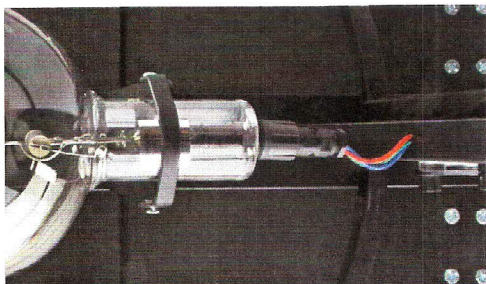

Figure 1: Socket connection
2. Connect the female socket from the base to the male socket on the bulb. See Figure 1.